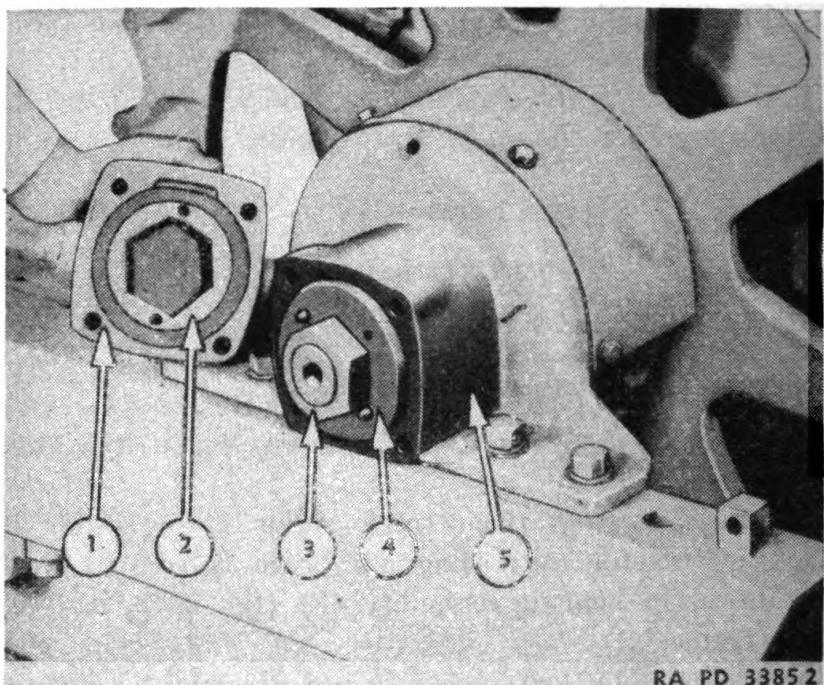

FIGURE 135.—Cap, lock ring, and washer assembly.
(2) Remove capscrews from track roller frame outer bearing.
(3) Jack up tractor until diagonal brace is free of final drive shaft and dowel in bearing assembly (5) (fig. 135), is free of the track roller frame.
(4) Remove cap (1), lock ring (2), nut (3), and washer assembly (4), (fig. 135). Nut (3) is $2\frac{5}{16}$ -inch, for which wrench L2075 is available.
(5) The shims (6) fig. (136), behind washer (4) are for alining the track roller frame centrally with the sprocket.
(6) When properly adjusted, the rear roller in the track roller frame will be centered with relation to the sprocket.
(7) Removing shims will allow the roller frame to move toward the center of the tractor; adding shims will move the roller frame out.